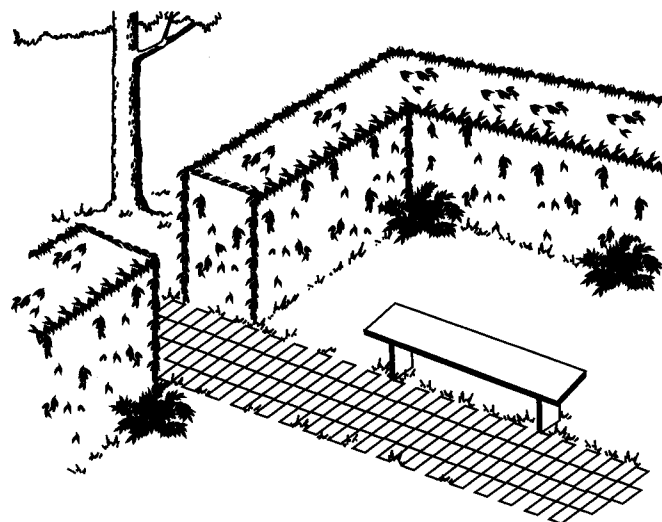

Fig. 7
2. If desired, you can use a string to help cut your hedge level. Decide how high you want the hedge. Then, stretch a piece of string along the hedge at this height. Trim the hedge just above this guide line of string. Trim the side of a hedge so that it will be slightly narrower at the top (Fig. 7). More of the hedge will be exposed when shaped this way, and it will be more uniform.